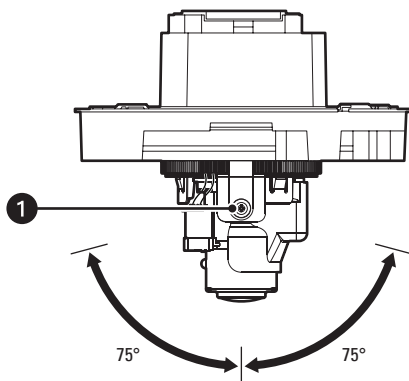

Figure 36. Adjusting the Tilting Position (Day/Night Model Shown)
3. Rotate the tilting table (± 75 -degree range) to adjust the tilting position of the camera (refer to Figure 36).